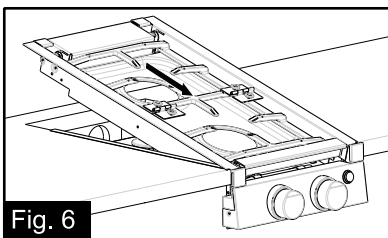
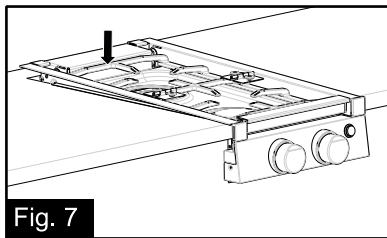

Fig. 6
Fig. 7
- 6 & 7. Check the pipe fittings for leaks using a soapy solution. Never use a flame. Push to insert the top glass cover assembly into the metal dip and place it into the hob, then pull front a little to lock into place. (Fig. 6 & Fig. 7)